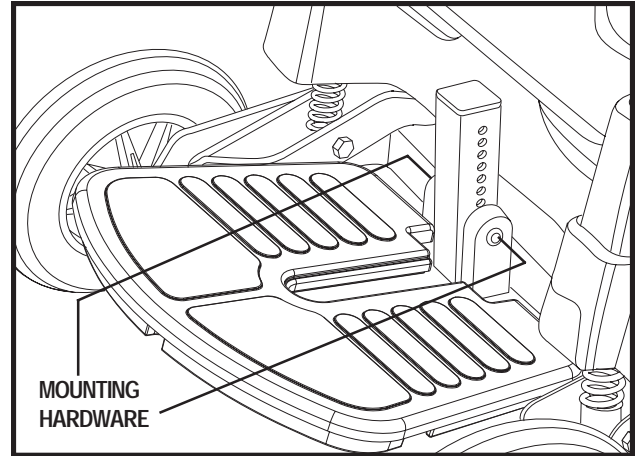

Figure 21. Footrest Height Adjustment
1. Remove the mounting hardware from the foot platform bracket. See figure 21.